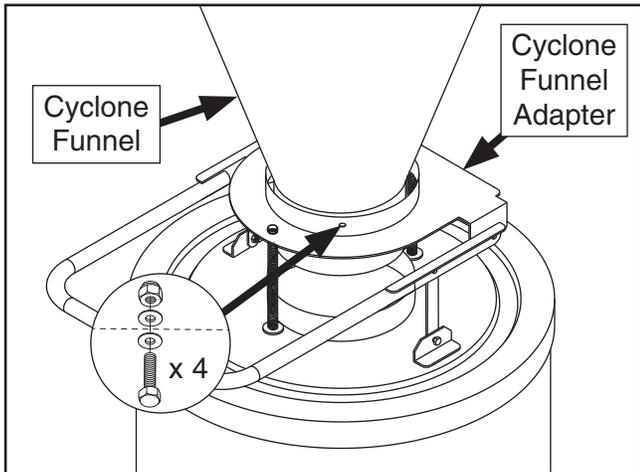

Figure 25. Cyclone funnel attached to adapter.
34. Align mounting holes of cyclone funnel and cyclone funnel adapter then attach with (4) $\frac{3}{8}$ "-16 x 1" hex bolts, (8) $\frac{3}{8}$ " thin flat washers, and (4) $\frac{3}{8}$ "-16 lock nuts (see **Figure 25**).